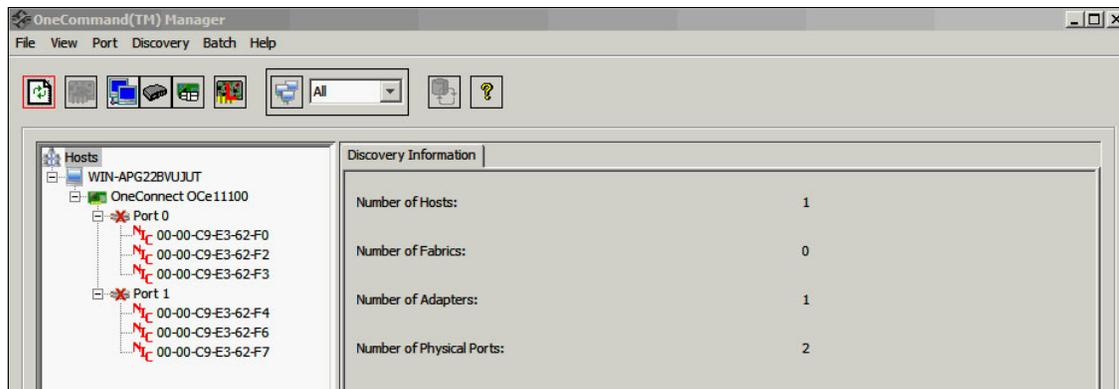

Figure 10-70 OneCommand Manager window
4. After OneCommand Manager discovers the hosts and adapters, if you see the ports on the **Discover Information** tab in the OneCommand Manager window (Figure 10-70), click the adapter that you want update. For this example, we click **OneConnectOCe11100**.